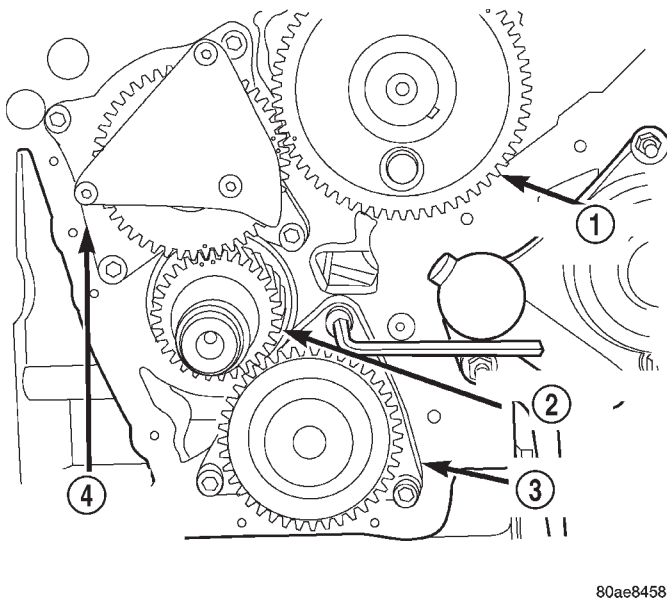

Fig. 81 Timing Marks
(1) Coat the camshaft journals with clean engine oil and carefully install the camshaft complete with thrust plate and gear. Tighten retaining bolts to 18 N·m (13 ft. lbs.). Be sure to align the timing marks as shown (Fig. 81).
(2) Install the hydraulic tappets and retainers. Refer to hydraulic tappet removal and installation in this section.